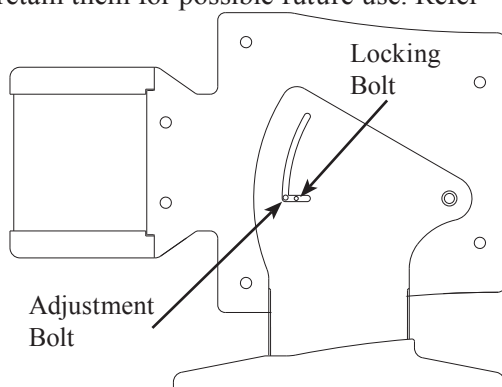

Figure 12
1. Using an appropriate tool, remove the hex head locking bolt (used during shipping) from each side of the Loudspeaker and retain them for possible future use. Refer to figure 12.